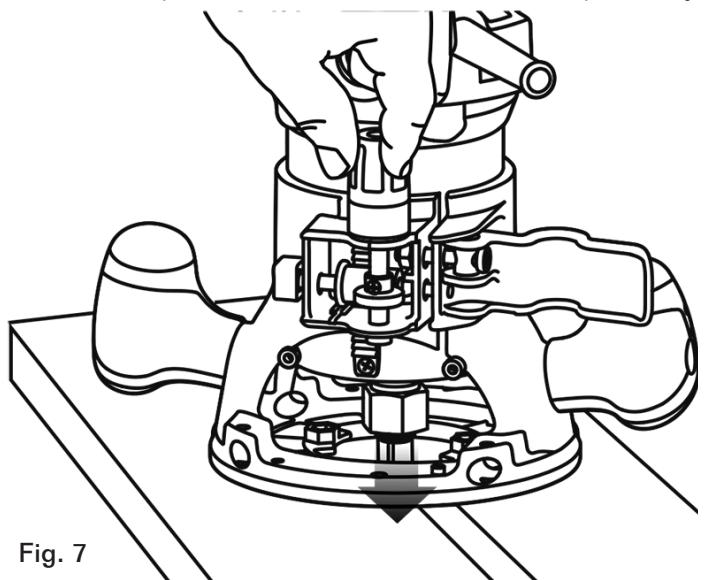

Fig. 7
ADJUSTING DEPTH (FIG. 7)
4. Place the router on two level pieces of wood, positioned so that the cutter bit can be lowered below the sub-base (FIG. 7).